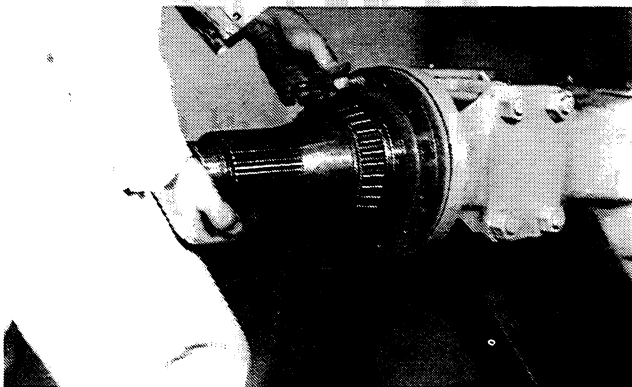

Figure 10:
12. Remove the spindle from the axle housing. Hold it firmly as the last capscrew is removed (Fig. 10).